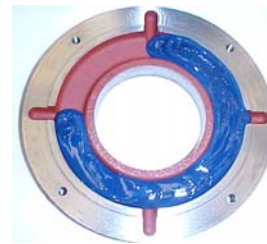

Figure 7.3: Outer bearing cap
- Fill up to ¾ of the inner and outer bearing cap deposits with the recommended grease (Figure 7.3) and lubricate the rolling bearing with enough grease before assembling it;
When the bearing is opened, inject the new grease through the grease nipple to expel the old grease found in the grease inlet tube, and apply the new grease in the rolling bearing, to the inner and outer rings, filling 3/4 of the empty spaces, as shown in Figure 7.3. In case of double bearings (ball bearing + roller bearing), also fill 3/4 of the empty spaces between the intermediate rings; Never clean the rolling bearing with cotton-based cloths, because they leave some lint, working as solid particles.